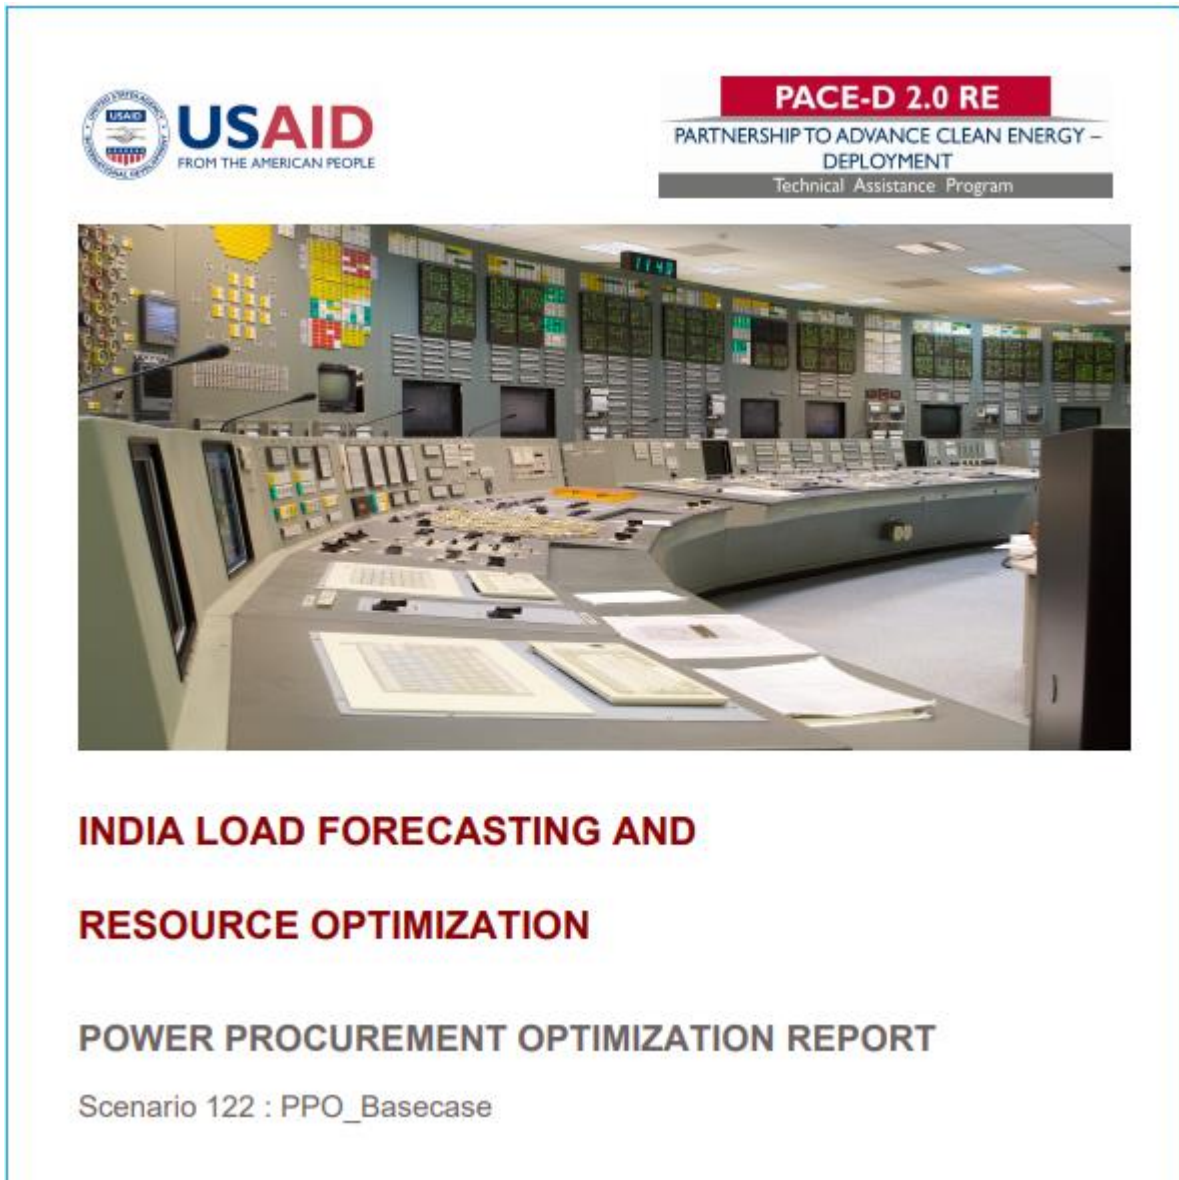

Figure 295. Power Procurement Report PPO Base Case PDF Report
4. Click on the **Download PPO PDF REPORT**  icon to download the PDF report file to see detailed PPO results along with input data. A screenshot of the PDF report PPO Base case is shown in Figure 295.